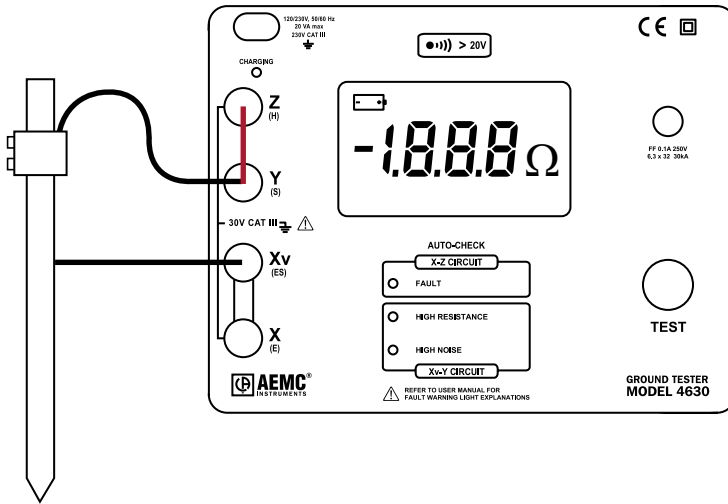

Figure 5
- Connect a short wire or jumper cable between Y and Z (H and S) as shown in Figure 5.